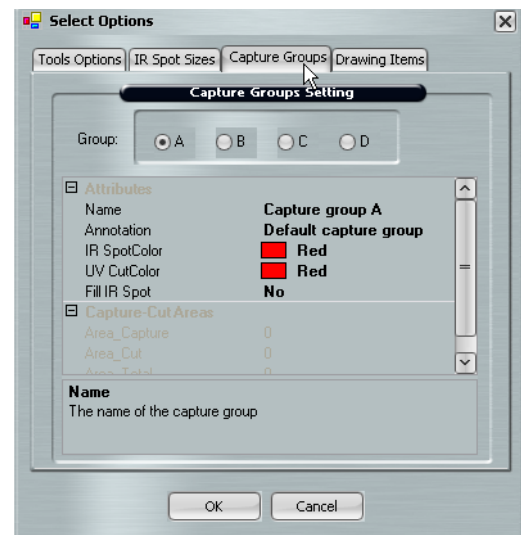

Figure 49 Capture Groups tab.
2. Click the **Capture Groups** tab (see Figure 49).